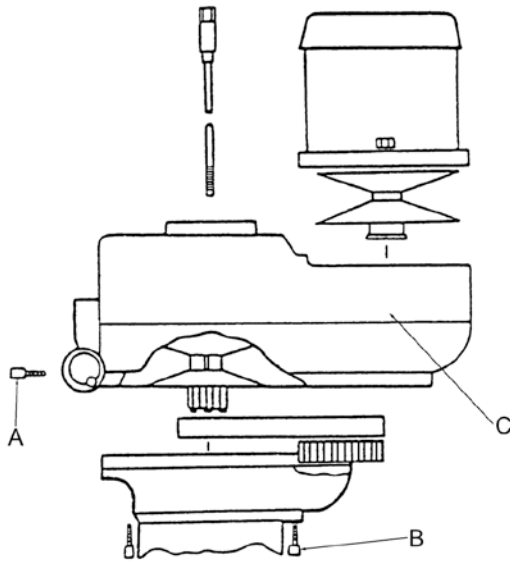

Figure 15
4. Remove the two lower screws from the variable speed housing (A, Fig. 15).
5. Remove the six screws (B, Fig. 15).
- Remove the top assembly (C, Fig. 15) and tap to clear dowels.